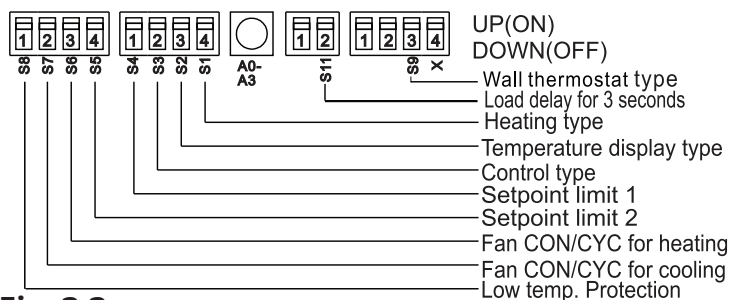

Fig. 3.3
- Refer to **Table 1** and **Fig. 3.3** for the DIP Switches configurations and the functions of each DIP switch.